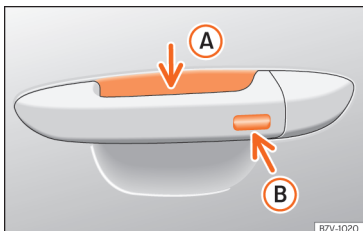

Fig. 52 Driver door lever: sensor surfaces.
»» Fig. 52
- Touch the sensor surface »» Fig. 52 **B** on the outside of the door handle. All turn signals flash *once*.
- Within 5 seconds, touch the sensor on the outside of the door handle »» Fig. 52 **B** once. Do not grip the handle while doing so. This temporarily deactivates the Keyless Access system.
To close all the electric windows and the sunroof using the **comfort function**, keep a finger for a few seconds on the locking sensor surface >>> Fig. 52 ② of the door handle until the windows and roof have closed.